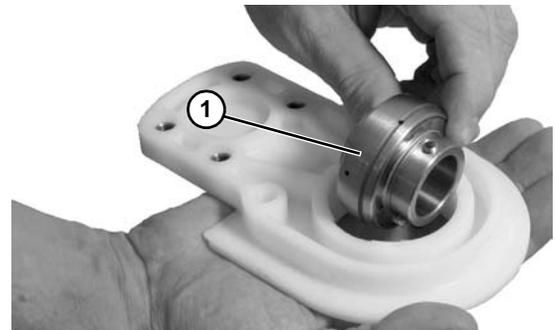

Figure 80
2. Twist the bearing out (Figure 80, item 1).